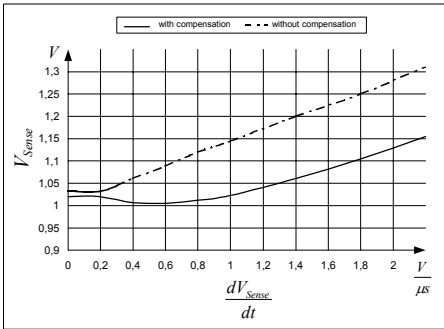

Figure 13 Overcurrent Shutdown
the overshoot dependency on dl/dt of the rising primary current. That means the propagation delay time between exceeding the current sense threshold V_{csth} and the switch off of the external Power Switch is compensated over temperature within a wide range. Current Limiting is now possible in a very accurate way (see Figure 13).
E.g. $I_{peak} = 0.5A$ with $R_{Sense} = 2$. Without Propagation Delay Compensation the current sense threshold is set to a static voltage level $V_{csth}=1V$. A current ramp of $dl/dt = 0.4A/\mu s$, that means $dV_{Sense}/dt = 0.8V/\mu s$, and a propagation delay time of i.e. $t_{Propagation\ Delay} = 180ns$ leads then to an I_{peak} overshoot of 12%. By means of propagation delay compensation the overshoot is only about 2% (see Figure 13).